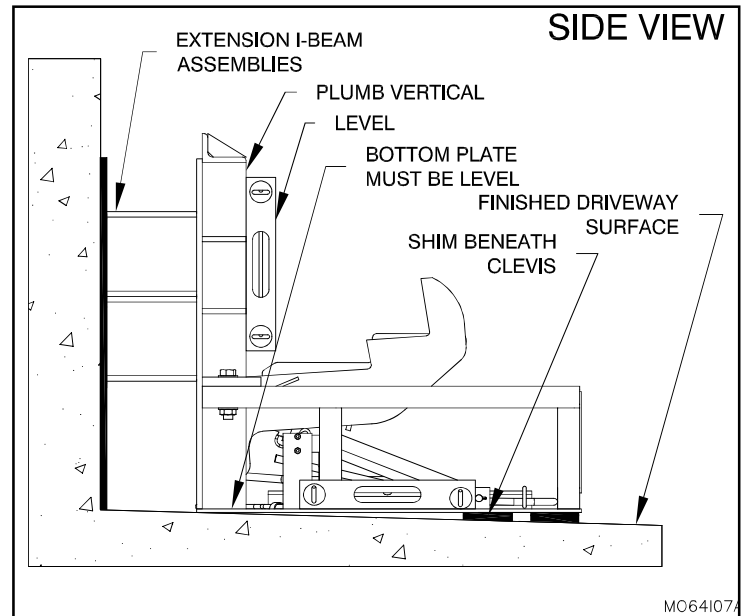

Figure 18: Bottom Shimming
3. Position the restraint (complete with extension I-beams welded to it) centered vertically and horizontally to the extension plate. Restraint must be at finished driveway level. If the ground is not square with respect to the bottom plate of the restraint, metal shims must be inserted below the bottom cylinder clevis. See "Figure 18: Bottom Shimming" on page 21. **NOTE:** All shims must be welded together as well as to the restraint bottom plate.